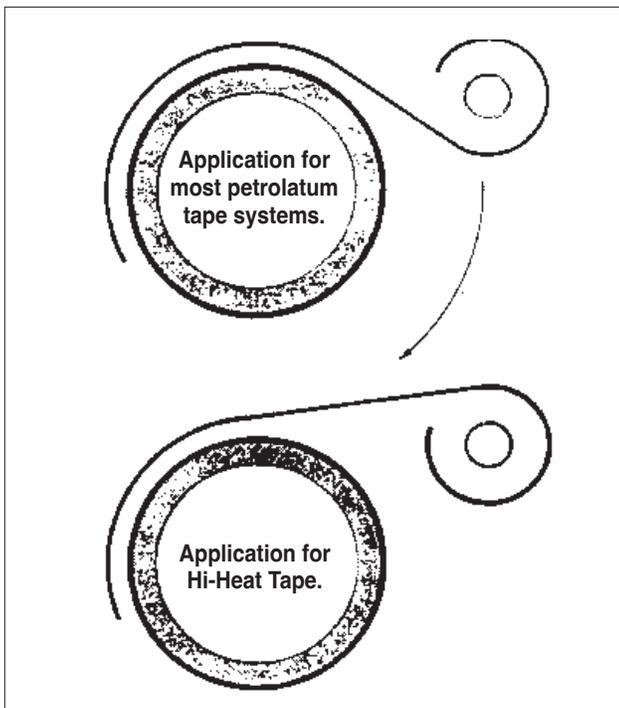

Figure 1 - When applying the Hi-Heat Tape, WB Tape and Marine Piling Tape, the tape should be applied sticky side down with the clear film on the outside.
- 7.3 Hold end of tape firmly against the starting point and firmly press on the surface. Unroll the tape, keeping the roll close to the surface. Do not get a long lead of tape as it will tend to fold and gap on the surface being wrapped. The tape is best applied by rolling it around the pipe and giving it proper tension (See Figure 1).